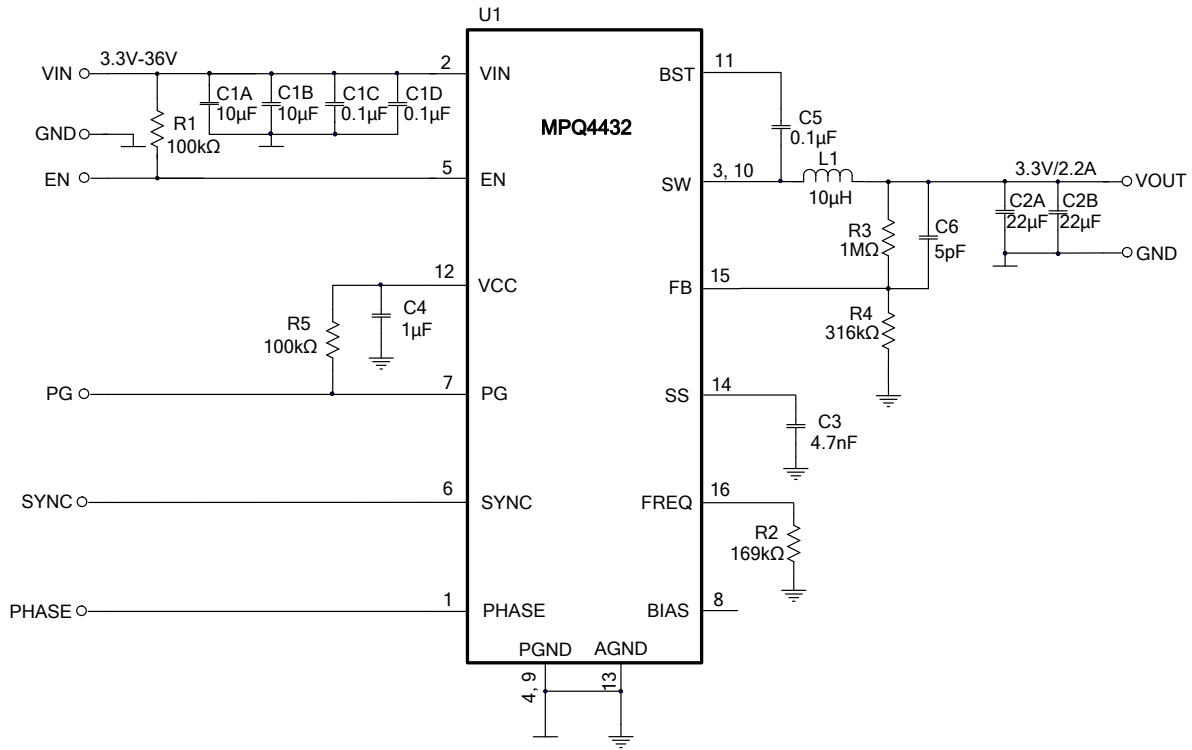

Figure 9: $V_{OUT} = 3.3V$, $f_{sw} = 500kHz$
8) The recommended PCB layout is based on Figure 9.